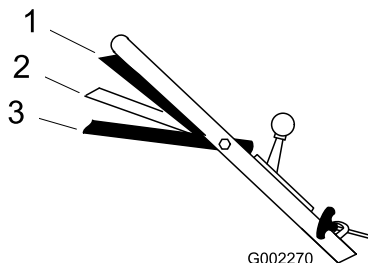

Figure 17
3. Squeeze the blade control bar against the handle to the Run/Drive position (Figure 17).